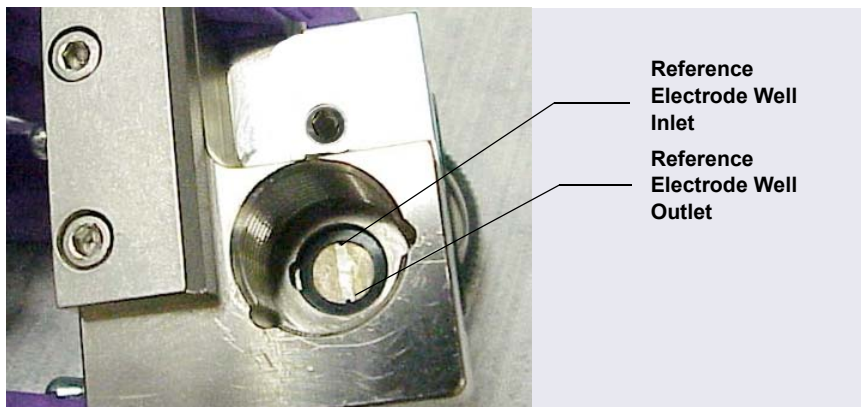

Figure 9-62. *Reference Electrode Well with Reference Electrode Gasket for Capillary IC Installed*
4. Make sure the gasket is centered in the bottom of the well and that it does not block the inlet and outlet of the well. The inlet and outlet are small round openings in the bottom of the well (see Figure 9-62).